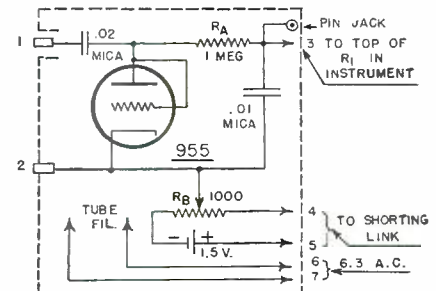

Fig. 2.
r.f. voltages higher than 200 be measured with the measuring head shown. The reader is not restricted to the type of a.c. probe shown in Figure 2. He may please his own fancy in this regard. Rider's *Vacuum Tube Voltmeters* gives working designs for several such probes of different circuit arrangement.
After the d.c. calibration has been completed, it will not generally be necessary to make a separate a.c. calibration, as the instrument will indicate the peak value of alternating voltages applied to the measuring head (Figure 2). However, a check may be made to ascertain that the a.c. attachment is functioning properly. The measuring head (a.c. probe) is connected to the instrument, a known alternating voltage applied to the probe input terminals, and the meter deflection noted. The latter should be the peak value of the applied voltage (1.41 X the measured value as indicated by a common a.c. voltmeter of good accuracy). If the deflection does not attain this value, or if it is desired to have the meter read RMS values, the diode filter resistor ( $R_4$  in Figure 2) may be either increased or decreased to obtain the desired reading.
Before placing the a.c. probe into operation, the diode contact potential must be bucked out by means of the potentiometer  $R_{10}$  (Figure 2) to prevent a steady deflection of the meter (and